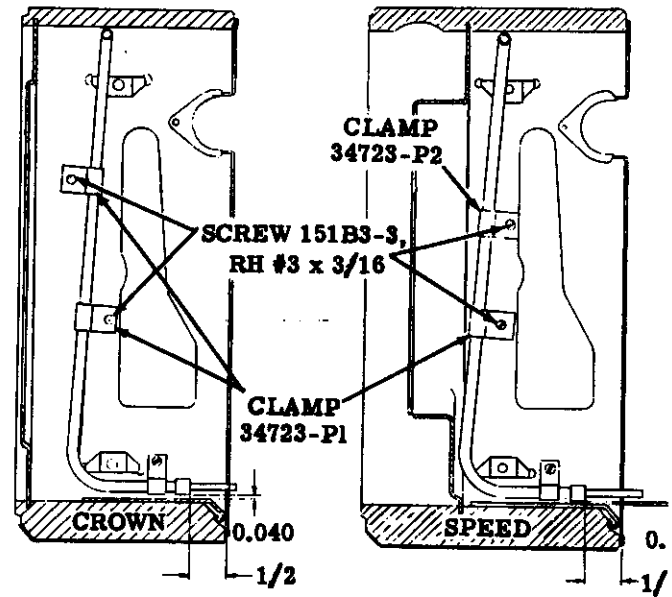

Figure 12. TUBE CLAMPS
e. Tube Clamp. A second tube clamp has been added to hold the horizontal position of the tube more rigid. The figure below illustrates the location of the tube and its clamps (figure 12).